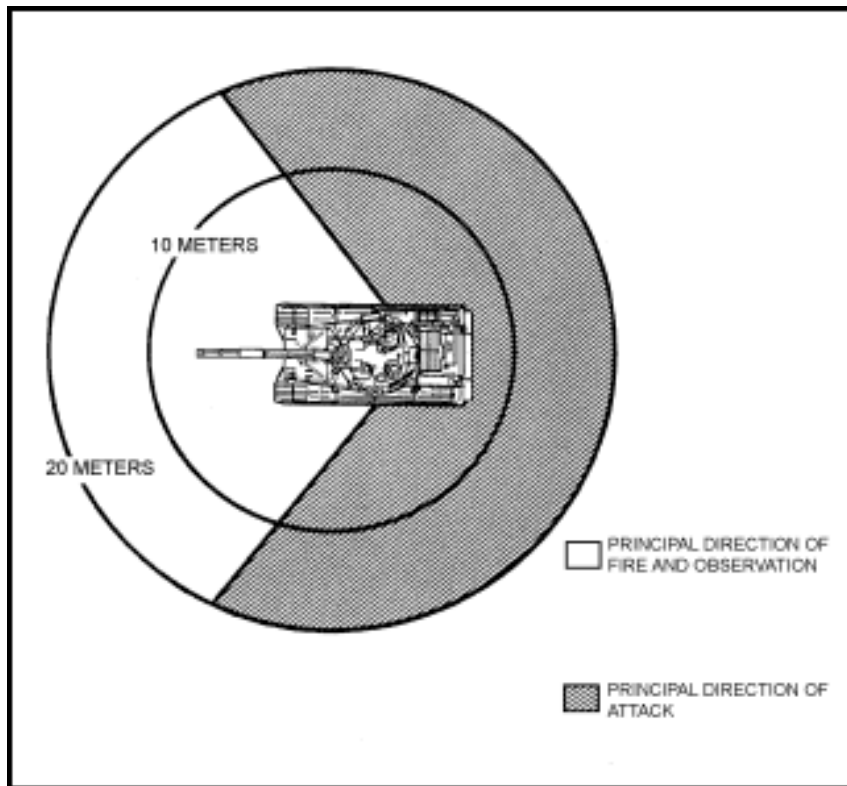

Figure 6-3. Limited visibility of armored vehicles.
b. An armored vehicle without close protection (dismounted infantry) in woods, MOUT, or other restrictive terrain is vulnerable to close attack. This type of attack is most likely to originate from well-armed infantry-type teams organized into armor-killer teams. (Noninfantry units may also be required to perform this mission.) Skilled firers from these teams should engage the suspension or engine compartment of vehicles that have applique or reactive armor. When an armored vehicle is buttoned up—all hatches are closed and personnel are inside the vehicle—the crew cannot see well enough to protect itself from close attacks or attacks from the flanks or rear. The personnel inside cannot see anything within 10 meters of the vehicle, and they cannot shoot at anything (using their main guns) within 20 meters. The white area in Figure 6-3 shows the most favorable direction of attack when the turret is facing to the front; the gray area shows the vehicle's principal direction of fire and observation when the turret is facing to the front.